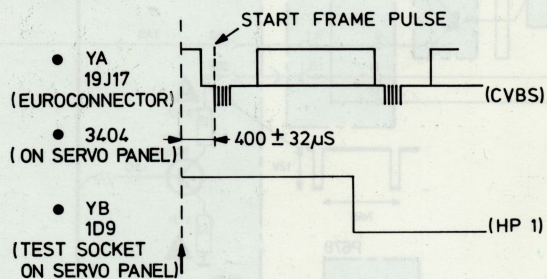

Fig. 1
- Adjust 3108 so that the positive going edge in the HP1 signal is leading  $400 \mu s \pm 32 \mu s$  ( $\approx 5 \frac{1}{2}$  lines) (see Fig. 1) relative to the leading edge of the frame pulse.